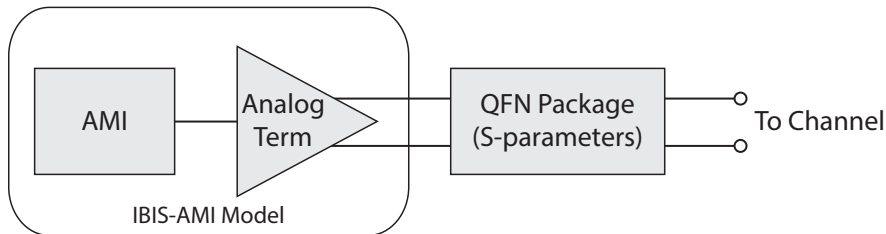

Figure 2-4: GS6080 Transmitter IBIS-AMI Model
The GS6080 Transmitter IBIS-AMI model consists of three parts: (1) the Analog Driver IBIS model, (2) the Transmitter AMI model, and (3) the QFN package model. The block diagram in Figure 2-4 shows the sequence of the signal flow and the individual parts of the model.